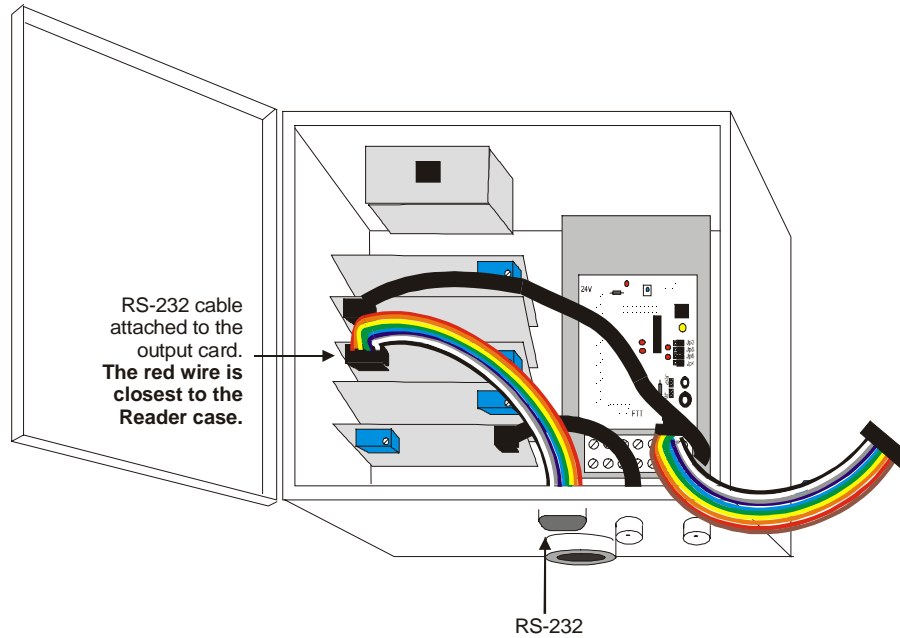

Figure 15 FTT Reader with the output card disconnected from the FTT motherboard and connected to the RS-232 port.
Step 1: Open the Reader case. There is a 9-wire ribbon cable connected to the RS-232 port. The other end is unconnected and tied. There is a 10-wire ribbon cable connecting the output card to the FTT motherboard (Figure 15).
Step 3: Connect the free end of the 9-wire ribbon cable to the output card (Figure 15). The red wire should be closest to the Reader case's hinges.